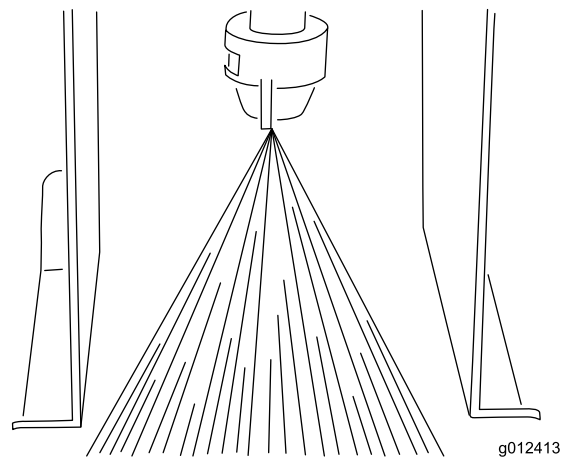

Figure 25
5. Raise or lower the nozzle tube until the paint sprays slightly below the shields (Figure 25).